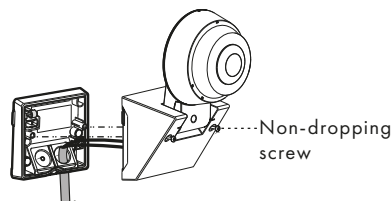

FIG. 8
- 3.4.1.4 Fix the detector head to the bottom cover (See FIG. 8) and adjust the detector head to be in the right position (See FIG. 9 - A & FIG. 9-B)